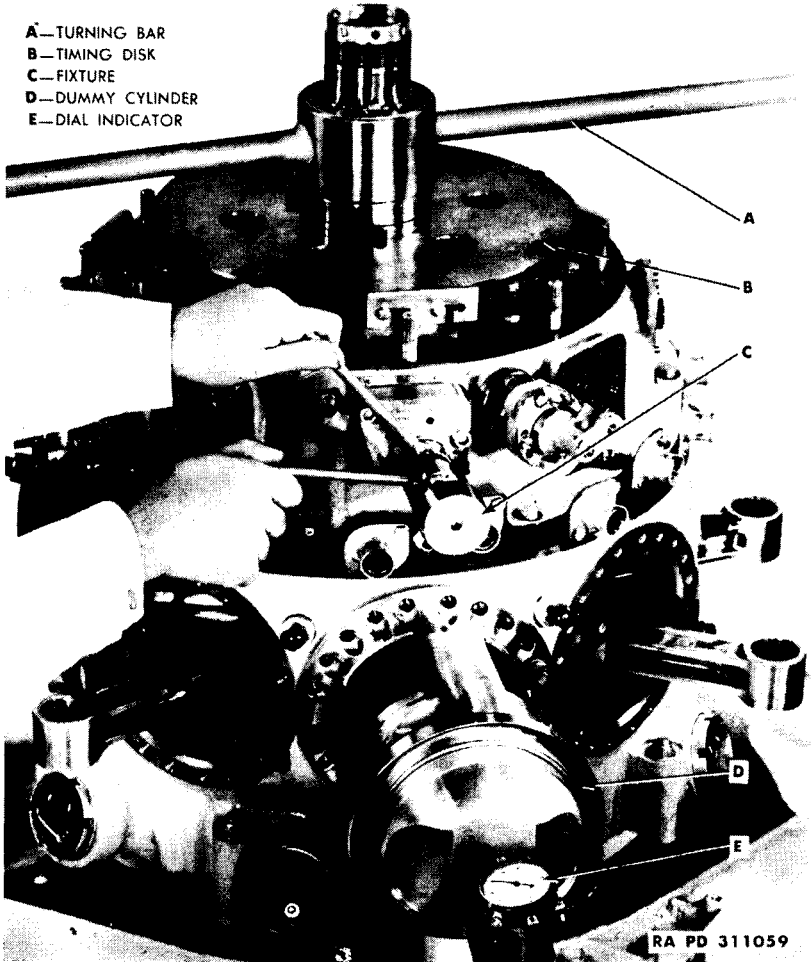

Figure 63 — Adjusting Fuel Pump Lifters, Using Bar 5A2165, Disk 5A2164, Fixture 5A1368, and Cylinder 5A2183
(4) **ADJUST FUEL PUMP LIFTERS AND FUEL PUMP CONTROL DOGS** (figs. 63 and 64).